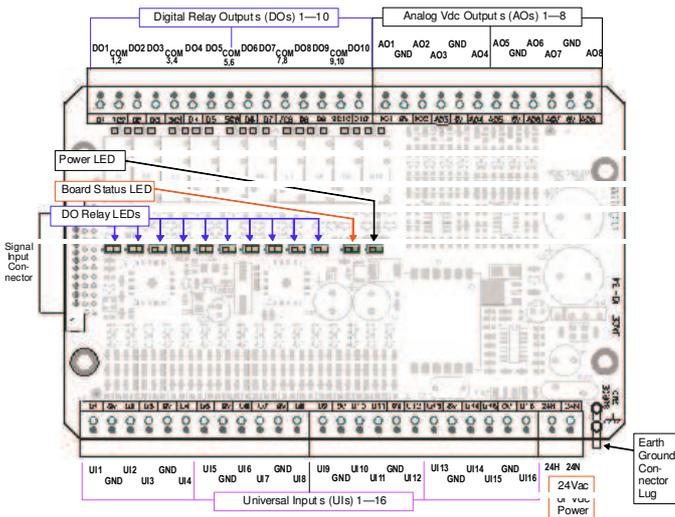

Fig. 2. CLAXHAWKIO34 Wiring Terminal Locations
The CLAXHAWKIO34 provides 16 universal inputs supporting analog inputs (temperature, resistance, voltage, and current) and digital inputs (contact closure, pulse count), and 18 outputs: 10 relay (24Vac/dc, 0.5A max.) outputs and 8 analog outputs (0–10 Vdc). Wiring terminal positions are shown in Figure 2, along with LED locations.
See Figure 2 above to locate connectors and other components on the CLAXHAWKIO34 controller.
An LED status indicator for each relay (D1—D4) is located on the board (Figure 2), and also visible through the cover. Under normal operation, each digital status LED indicates activity as follows:
Note Any time a powered IO module’s status LED is not lit, all outputs are in “failsafe” state (all relay outputs OFF, and all AOs are at a 0-volt level). See Figure 2 for location of the HAWKIO34 status LED.
- Step 1** Plug in the 24V connector plug to apply power. The CLAXHAWKIO34 board status LED will initially be Off (Figure 2), but the Power LED on the CLAXHAWKIO34 and HAWK2xx/6xx should be lit. Allow the HAWK sufficient time to boot (at least 2 minutes).